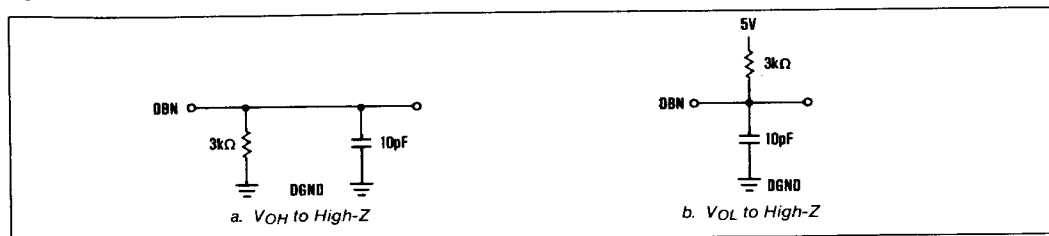

Figure 2. Load Circuits for Bus Relinquish Time
**Note 10:**  $t_7$  is defined as the time required for the data lines to change 0.5V when loaded with the circuits of Figure 2.